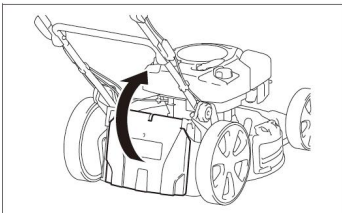

Fig. 8A
6.2.1. Turn the Rear protective plate, assemble the chute flap and close the rear discharge guard; Fig. 8A/B/C.